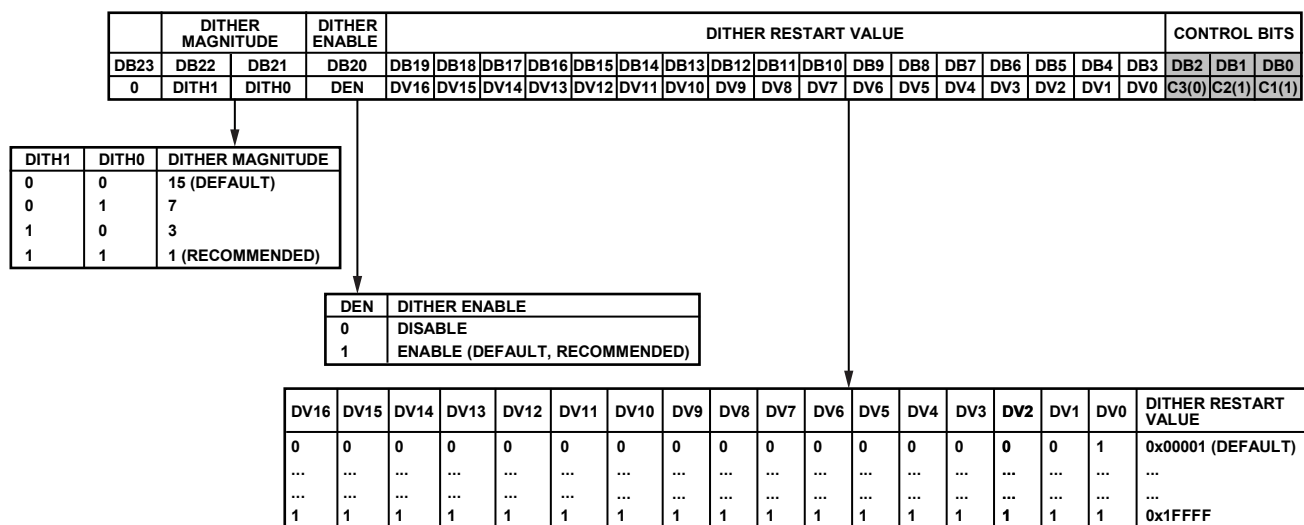

Figure 44. Register 3— $\Sigma$ - $\Delta$  Modulator Dither Control Register Map
With Register 3, Bits[2:0] set to 011, the on-chip  $\Sigma$ - $\Delta$  modulator dither control register is programmed as shown in Figure 44. The recommended and default setting for dither enable is enabled (1).